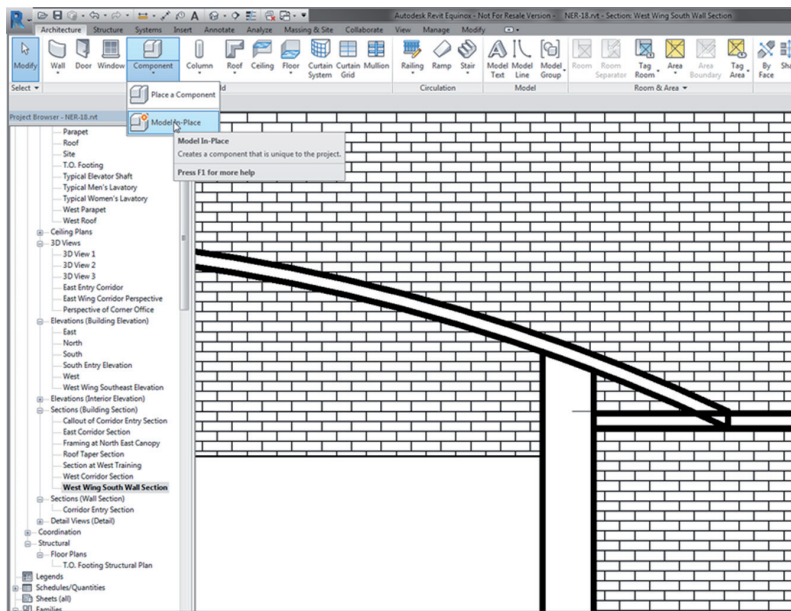

FIGURE BC2.29: Starting an in-place family
3. On the Architecture tab, click Component > Model In-Place, as shown in Figure BC2.29.